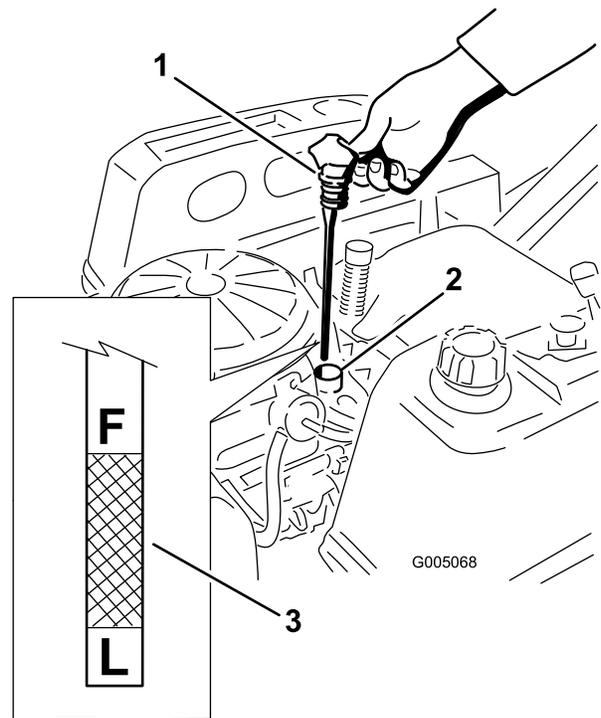
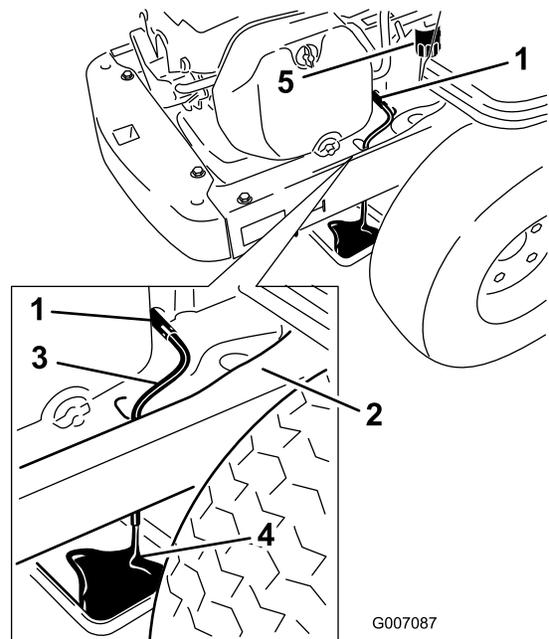

Figure 28
Figure 30
5. Remove the dipstick and check the oil level. (Figure 28).
4. Pull and remove the oil fill cap/dipstick; wipe oil off. Reinsert the dipstick and push firmly into place (Figure 28).
7. Place a pan underneath machine directly below the drain hole in the frame as shown in Figure 30.
8. Turn the drain valve 1/4 counter clockwise to open and allow the oil to drain (Figure 30). Remove the oil fill cap/dipstick (Figure 28).
10. Remove the old filter and wipe off the mounting pad (Figure 30).
11. When oil has drained completely, close the oil drain valve. Remove the oil drain hose and wipe up any excess oil on the frame (Figure 30).
15. Slowly pour approximately 80% of the specified oil into the filler tube (Figure 28).
16. Install the oil fill cap/dipstick and push firmly into place (Figure 28).
17. Check the oil level (Figure 28); refer to Checking the Oil Level.
19. Install the oil fill cap/dipstick and push firmly into place (Figure 28).